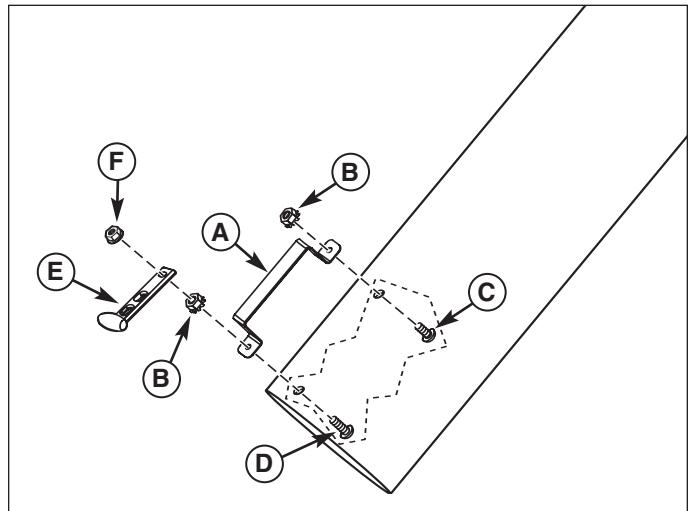

Figure 5. Handle to Tube Installation
1. Install the handle (A, Figure 5) using 1/4-20 x 1/2 screw (C) and 1/4-20 locknut (B) for rear hole. Use 1/4-20 x 1 screw (D) and 1/4-20 locknut (B) as shown. Tighten hardware.
2. Install the strap (E) to screw (D) securing with 1/4-20 locknut (F).